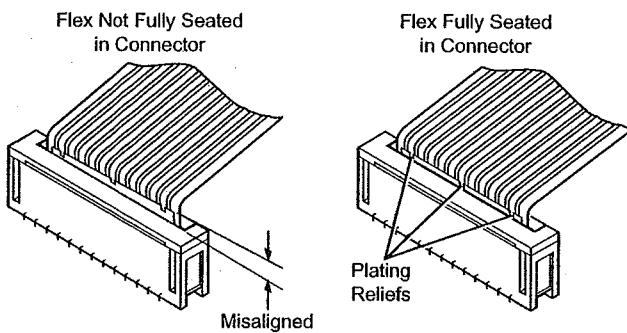

Figure 3.11
*View the flex connection at a slight angle from the bottom of the radio (See Figure 3.11). If the flex is fully seated, the orange circuit plating will be parallel with the connector top surface and three reliefs in the plating will make the flex plating appear to be separated. If the orange plating of the flex is not parallel with the connector's top surface, or the three reliefs are raised enough to see plating under them, then the flex is not fully seated.*